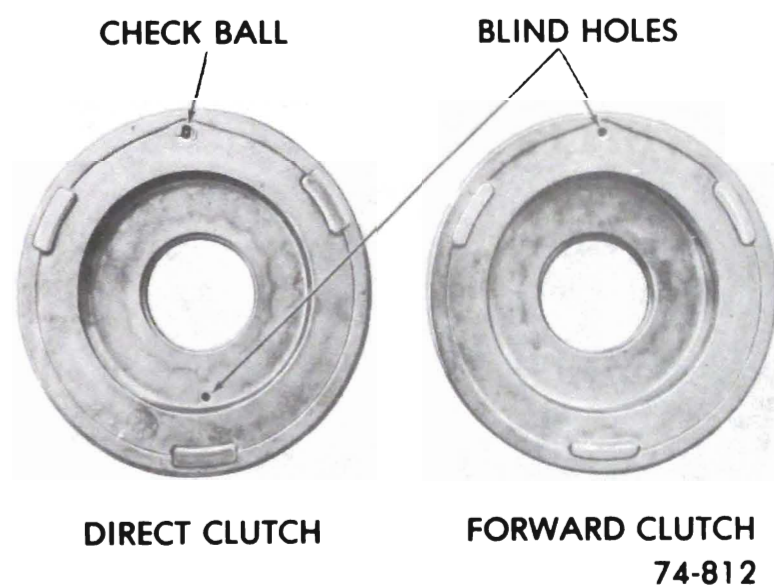

Figure 76-207
Make certain the piston has a ball check (Model "BB" direct clutch piston has two (2) check balls). The piston with a blind hole is for the forward clutch assembly. See Figure 76-207.